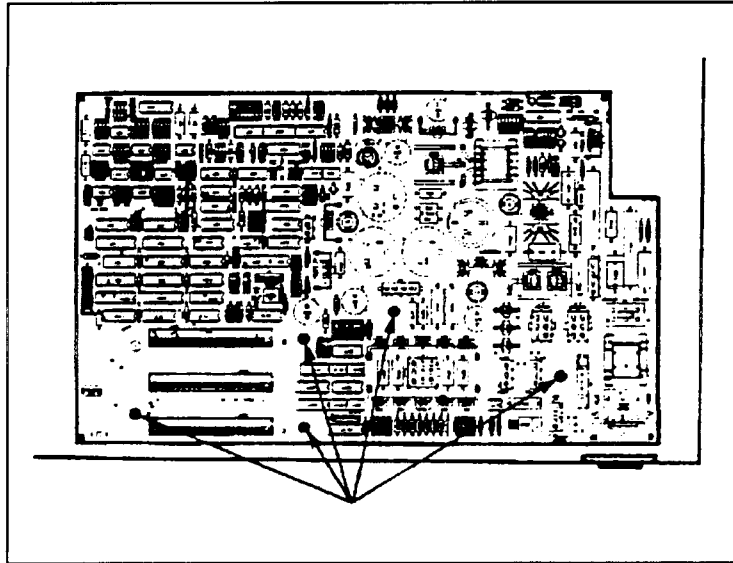

Figure 6-5. Analog/Backplane PCA Fasteners
- e. Pull up on the six (6) plastic fasteners on the PCA (see Figure 6-5) to release the PCA from the printer base.